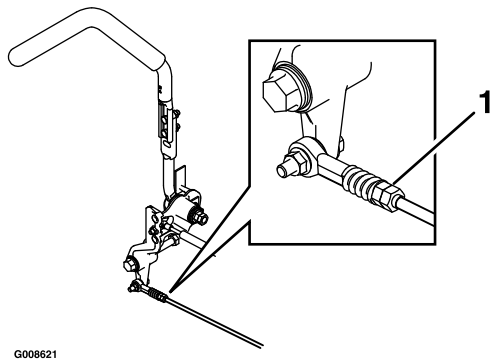

Figure 33
- Bring the motion control levers into the neutral position. Adjust pump control rod lengths by rotating the double nuts on the rod in the appropriate direction until the wheels slightly creep in reverse (Figure 33). Move the motion control levers to the reverse position and while applying slight pressure to the lever allow the reverse indicator springs to bring the levers back to neutral. The wheels must stop turning or slightly creep in reverse.